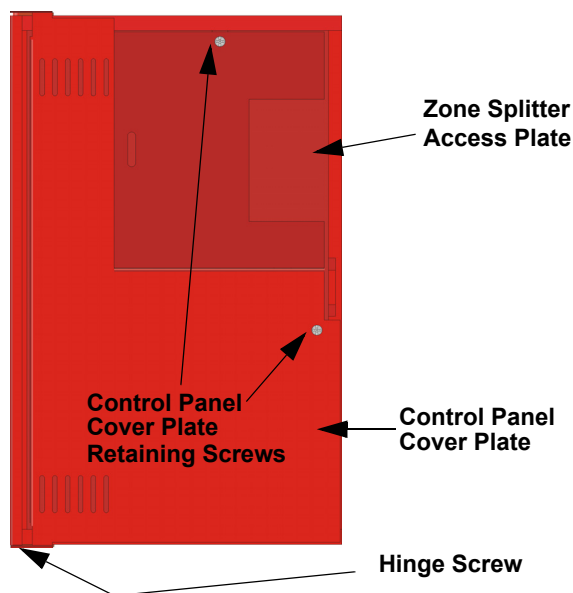

Figure 3-6 View of Cabinet With Cover Plate in Place
2. Remove the two cover plate retaining screws, then open the control panel cover plate. See Figure 3-6.
2. To access cabinet interior, open dead-front panel by removing the upper screw and the mid-door retaining nut. See Figure 3-6.